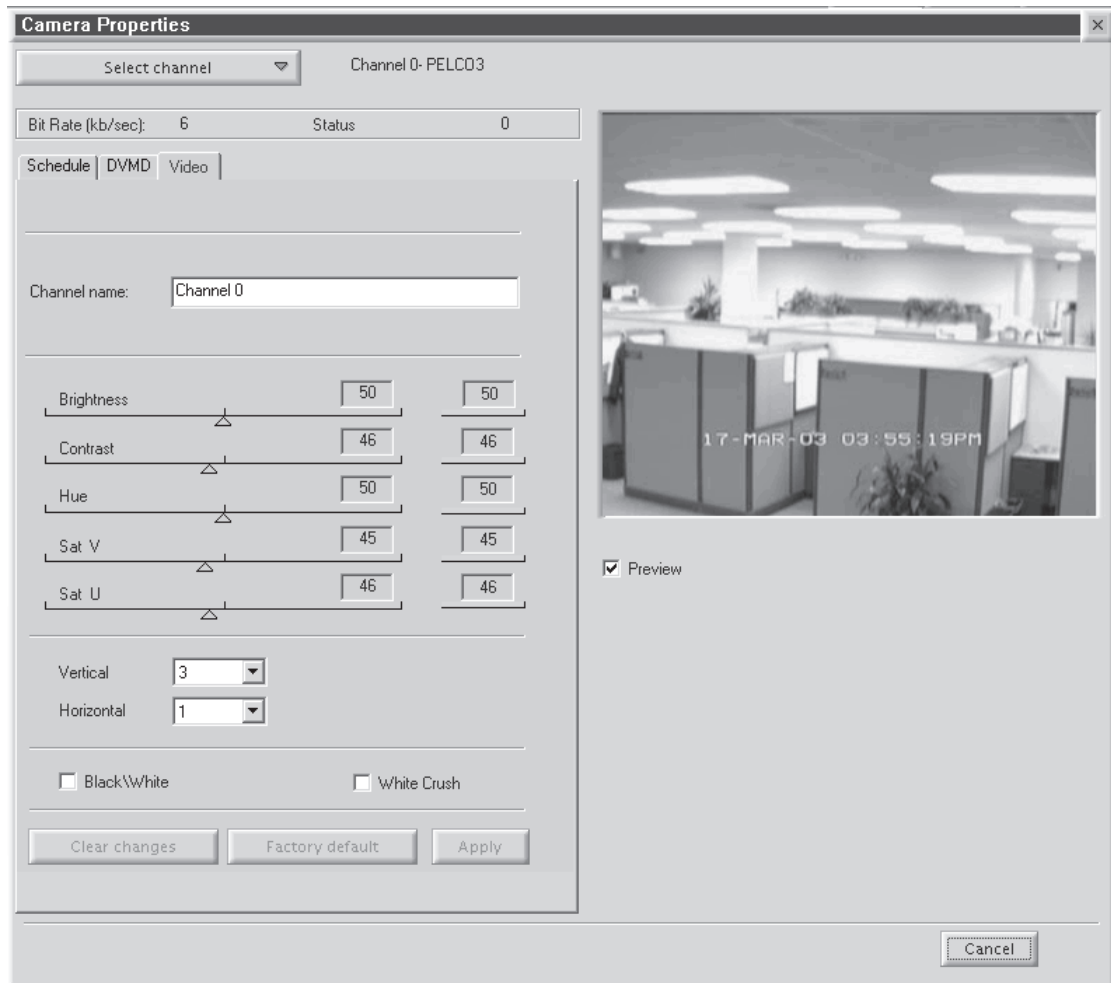

Figure 87. Camera Video Setup Page
1. Click the Video tab. The Video page appears. Refer to Figure 87.